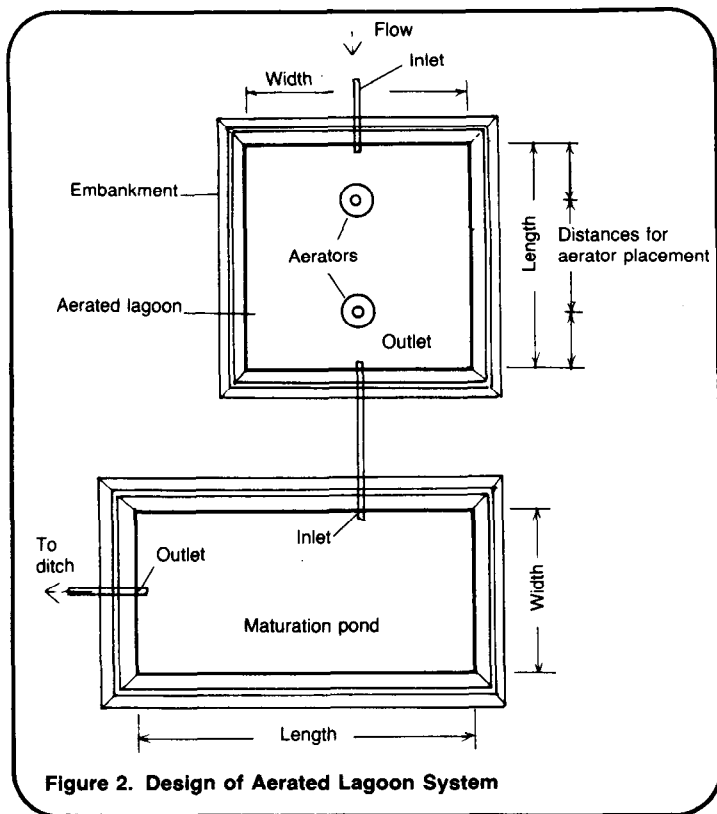

Figure 2. Design of Aerated Lagoon System
- 2) Design drawings, similar to Figure 2 and 3.